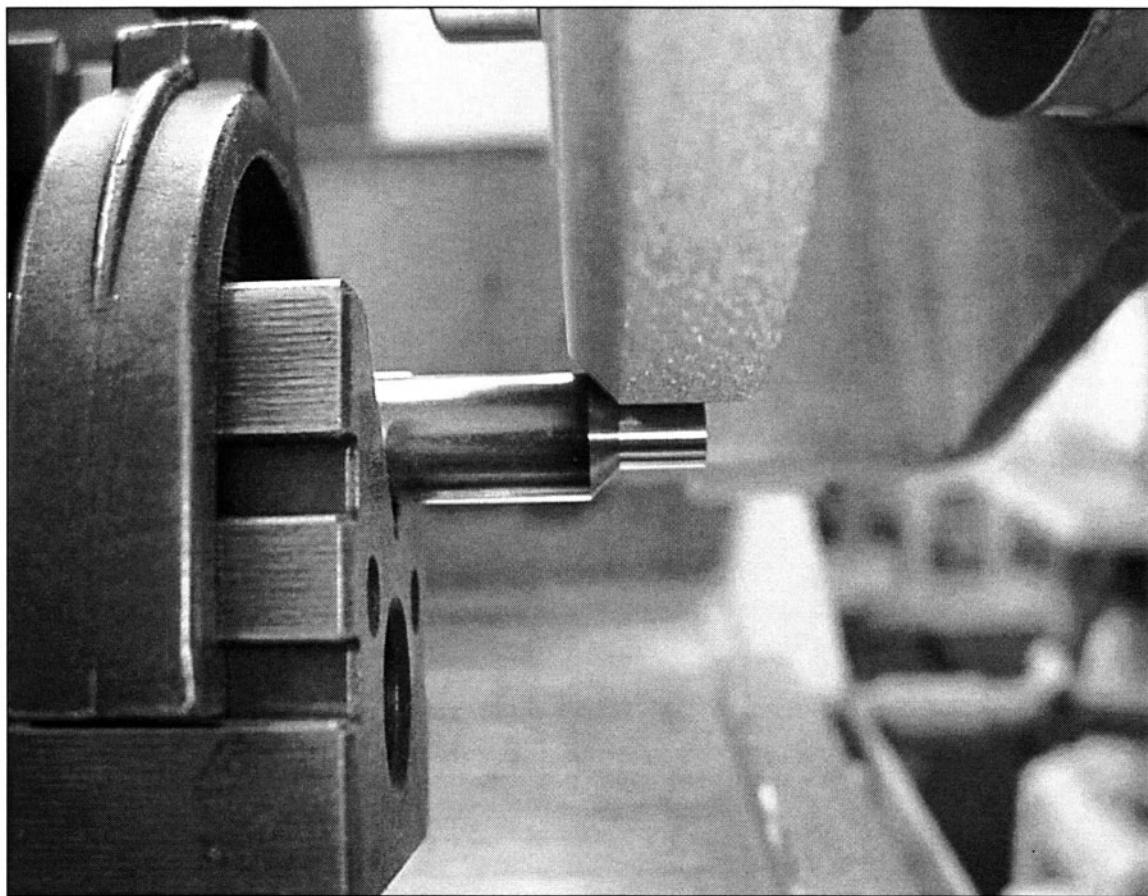

FIGURE 14-7 An angle and straight section are ground at the same time on this pin.
13. *When grinding pins, blend angles and straight sections at the same time. (See Fig. 14-7)*